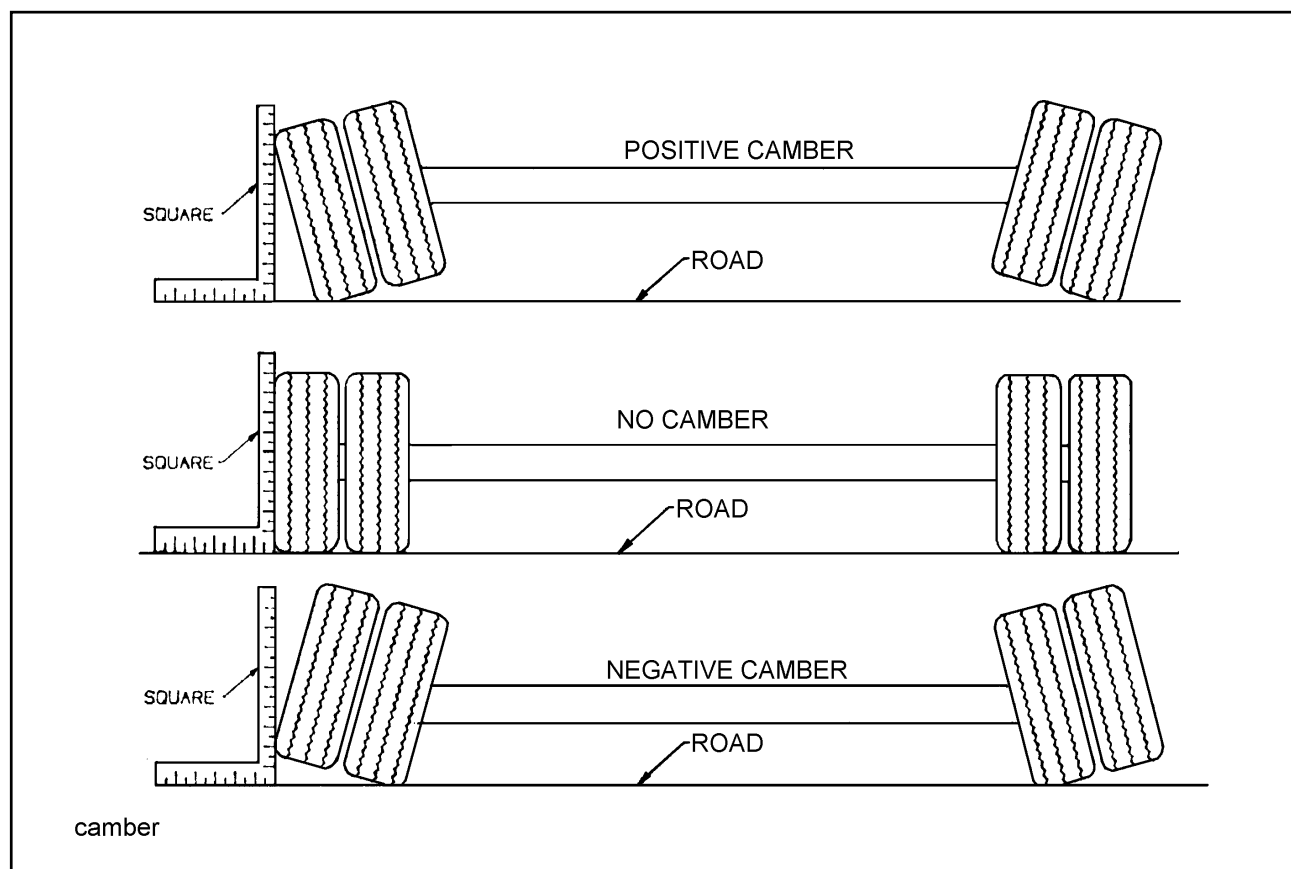

Figure 4-10 Examples of Camber
- d. Follow the same procedures as in Section 4-7.1 b. and c., except place the axle gauge above and below the axle. If gauge point gap is found, the axle has positive or negative camber. The trailer axle has no camber from the factory. If it is found to have positive or negative camber, axle replacement is necessary (See Figure 4-10 for examples of camber).